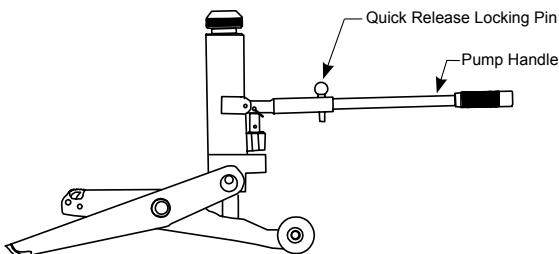

Figure 1
2. Insert the jack pump handle into the socket and lock it into place using the quick-release locking pin (see Figure 1) immediately after inserting it into the socket.